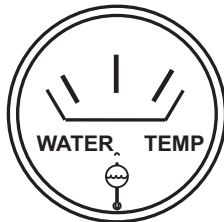

Figure 48. Coolant Temperature Gauge
15. The *coolant temperature gauge* (Figure 48) will indicate the coolant temperature. Under normal operating conditions the coolant temperature should be between 165 and 215 degrees Fahrenheit (**Green Zone**).